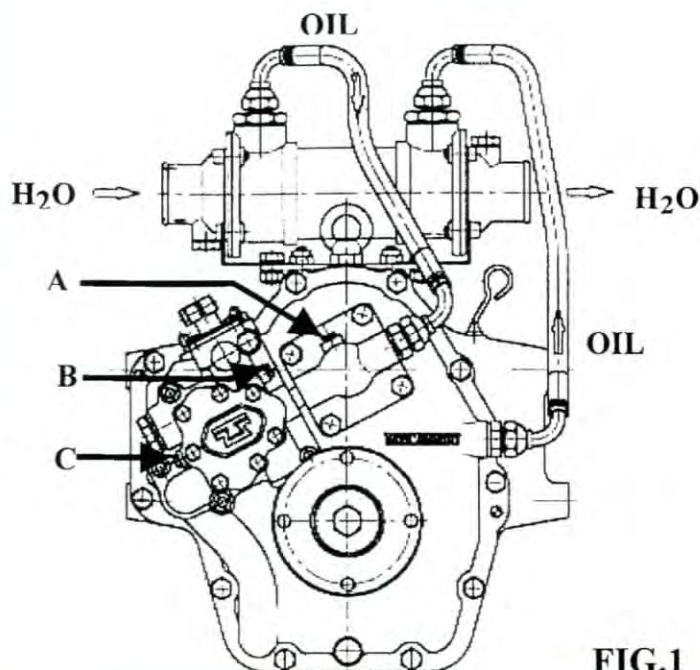

FIG.1
- The heat exchanger connection is achieved as shown in fig. 1.
- Oil pressure measured at 1000 RPM engine speed, oil temperature 60°C, is to be between 20 and 22 bar. Pressure gauge connections M8x1 are placed, refer to fig. 1, on A (forward) and C (reverse).